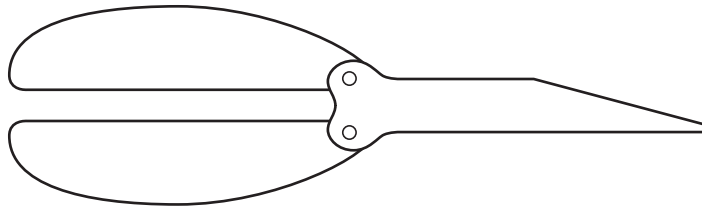

Fig. 2
- 2 Fig. 2 shows the jaws of the litter picker.